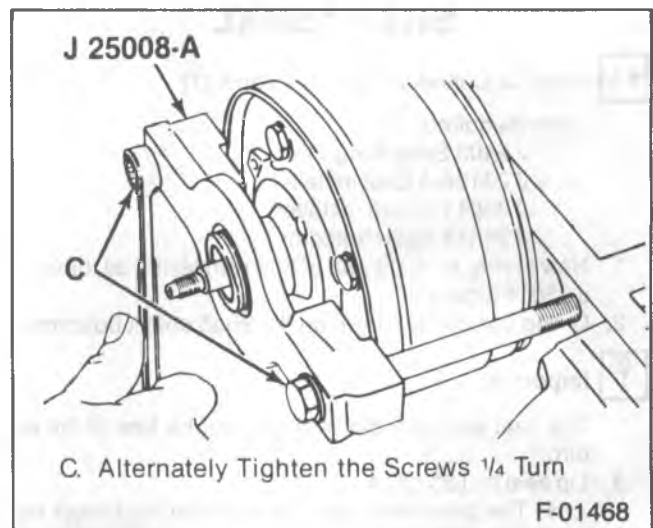

Figure 24—Installing the Shell
Install or Connect (Figure 24)
5. Installer J 25008-A to the holding fixture using long bolts and plate washers. Make the bolts finger tight (figure 24).